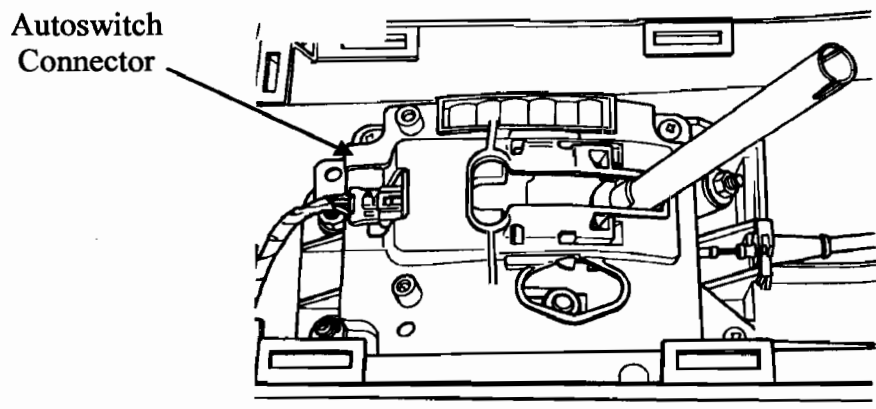
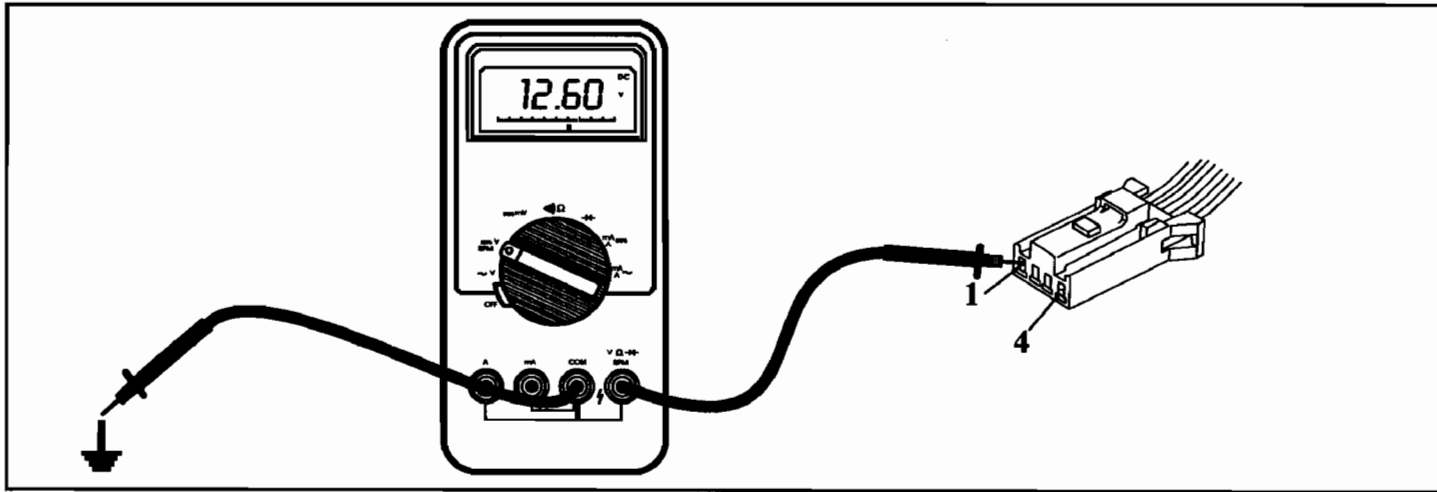

Figure 2
Figure 3
- (1) Locate and unplug the Autostick Switch in the center console (See Figure 2). Using a volt meter, turn the ignition ON and place the negative lead to ground. With the positive lead check for battery voltage at pin 1 in the Autostick connector (See Figure 3). If voltage is not seen, check for a blown fuse. LH vehicles check fuse # 17, all others check fuse # 11. If the fuse is good, the wire from the fuse to pin 1 is severed and will need to be repaired or replaced.